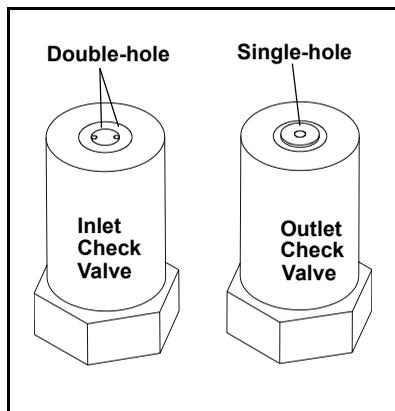

Figure 5-9. Pump Heads
4. Disconnect the tube fittings from the inlet and outlet check valve assemblies on the primary pump head (see Figure 5-9).
3. Locate the open end wrench (P/N 014605) provided in the ICS-1500 Ship Kit (P/N 057905). Use the wrench to remove the two acorn nuts (see Figure 5-9) from the pump head.